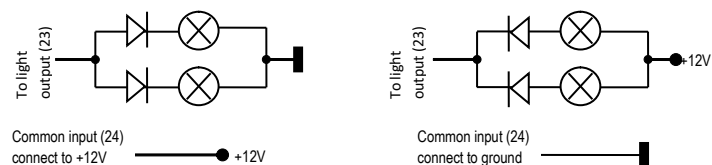

Fig.3 Signal lights connecting example (for direct control both lights is necessary connect diodes)
Brown (NO) - output to signal lights - This output is relay type (Fig.3), so it can be used as negative as well as positive.